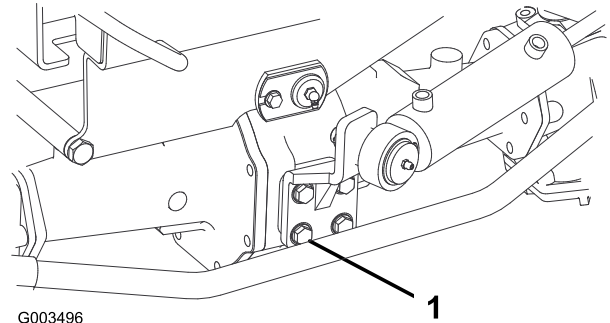

Figure 21
2. Check the torque on the steering cylinder mounting bolts (Figure 21). Torque should be 48 to 60 ft-lb.